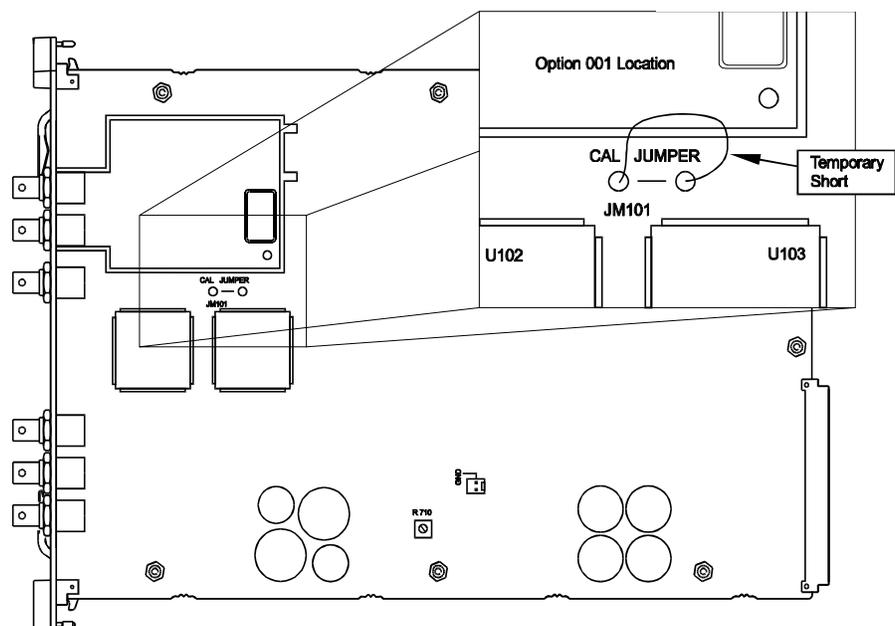

Figure D-1. Unsecuring the HP E1441A (without security code)
5. Apply a short between the two exposed metal pads on JM101 (located near U106 and U205) Figure D-1.